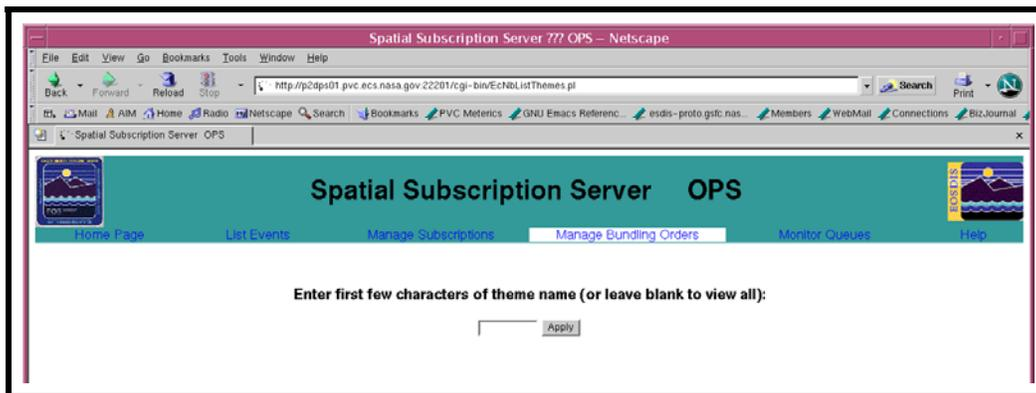

Figure 16.1-8. List Themes Request Page
- The **List Themes Request** page is displayed (see Figure 16.1-8).